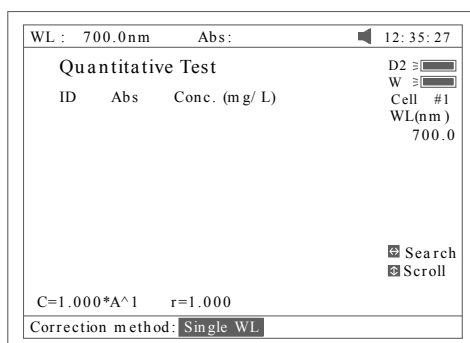

Fig 28
- Press [SET λ] to select correction methods and enter the wavelength. There are three correction methods (single, Isoabsorbance and 3 point, Fig 28).